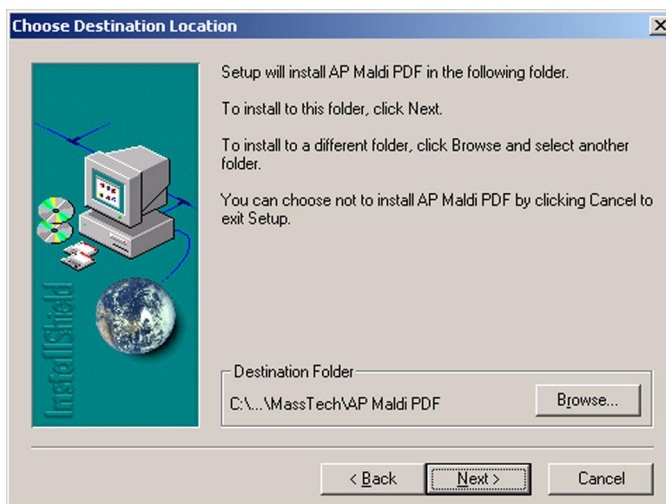

Figure 127 Choose destination location for Target software
- 3 Choose a location and folder name for the Target software. By default, the folder is **C:\Program Files\MassTech\AP MALDI PDF**. See Figure 127.